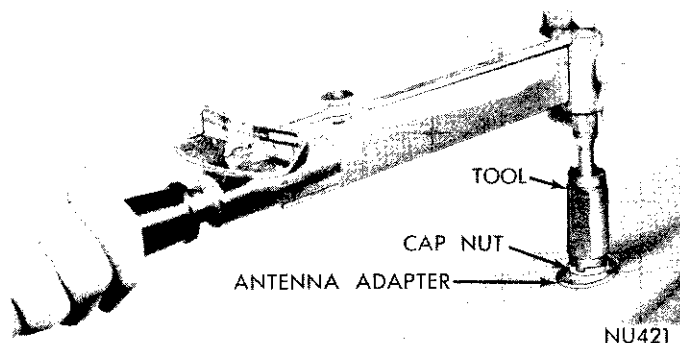
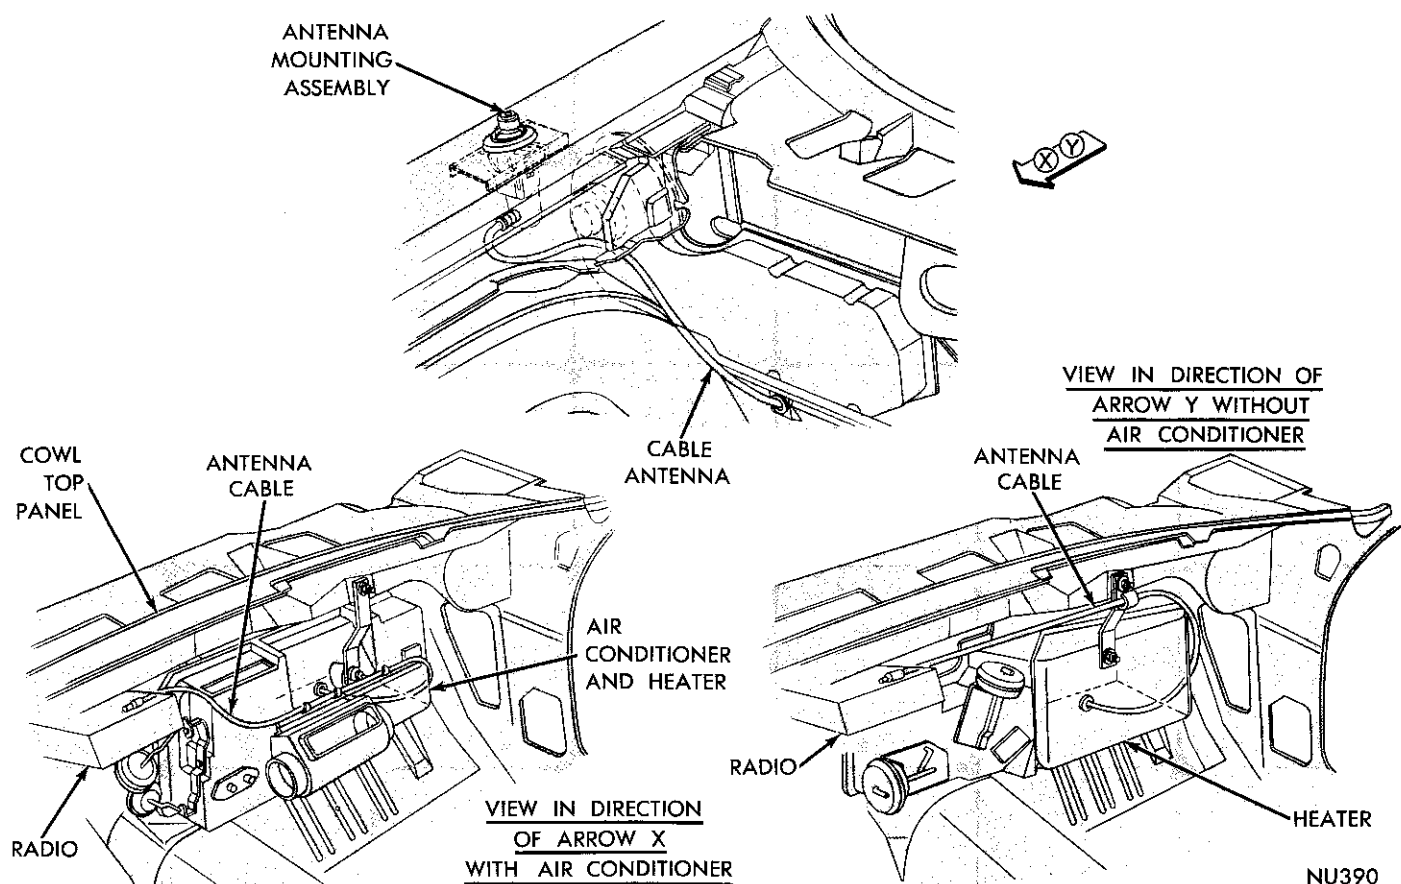

Fig. 14—Tightening Antenna Capnut
Fig. 15—Antenna Cable Routing—Manual
- (1) Assemble mounting collar to antenna body.
- (2) Enter antenna body from underneath fender and insert through mounting hole in fender.
- (3) Install gasket adapter and capnut. Tighten capnut to 155 inch pounds, plus or minus 25 inch pounds with Tool C-4085 (Fig. 14).
- (4) Install antenna mast into antenna until sleeve bottoms on antenna body.
- (5) Reroute antenna lead as shown in Figure 15.